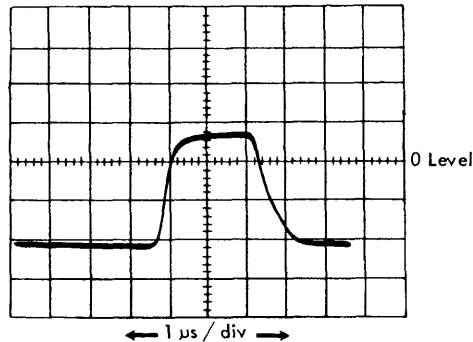

Figure 8. Disk Clock  $\phi A$  (2U6-3)  $2.25 \pm .25 \mu s$
6. Observe disk  $\phi A$  pulses at 3Zb (3.01.02) (See Figure 8).
7. Adjust 2T8 (3.01.02) for a pulse length of  $2.25 \pm .25 \mu s$  at the zero volt level. Use Process Unit,  $\phi A$  procedure, step 7 (Figure 8).